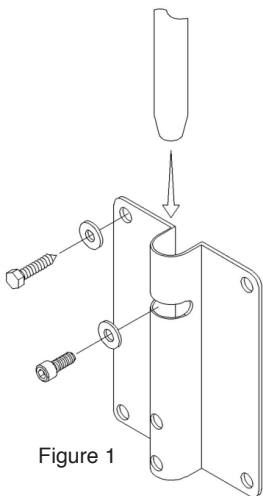

Figure 1
Step 1: For installation using the pan angle option, attach the wall mounting plate to the wall with the open center slot towards the ceiling using the appropriate hardware for the wall structure (Figure 1).
Step 3: Lift the assembled speaker with the support arm up to the slotted end of the wall mounting plate. Insert the support arm into the top end of the wall mounting plate barrel. Line up the threaded hole of the support arm with the open slot of the wall mounting plate. Insert the included socket screw and flat washer, and then tighten loosely (Figure 1).